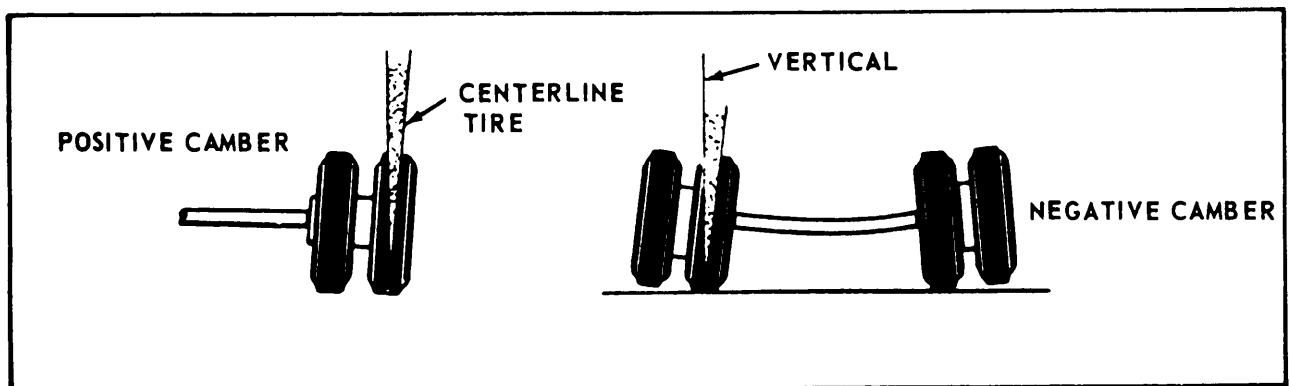

FIGURE 10-7. ILLUSTRATION OF AXLE CAMBER.
d. Positive camber - clearance between the inner prong and the bearing surface should normally be between .040 in. (1.016 mm) and .080 in. (2.032 mm). As long as the axle maintains camber, it should be satisfactory (see figure 10-7).
e. Negative camber - clearance between the outer prong and the bearing surface will indicate a sagging axle. Recamber or replace axle (see figure 10-7).